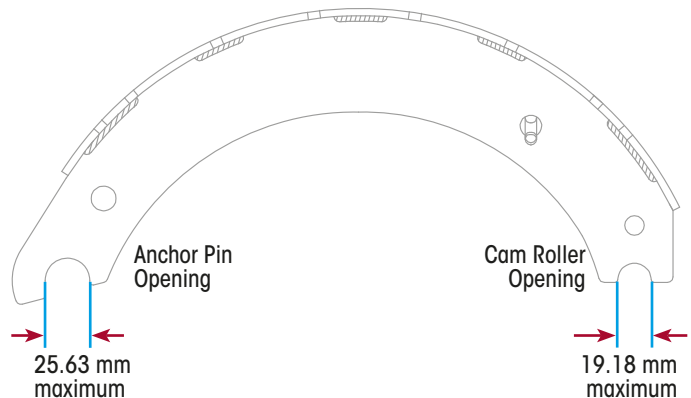

Figure 55: Checking Brake Shoe Openings
2. Check anchor pin and camshaft roller openings for wear, out-of-round or flaring. The anchor opening must not exceed 25.63 mm and the camshaft roller opening must not exceed 19.18 mm in diameter. Refer to Figure 55. Replace shoe if wear is above these limits.